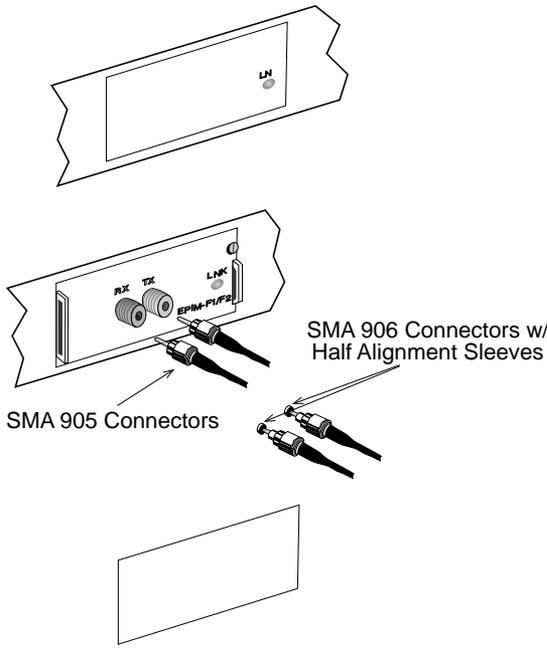

Figure 4-3. The EPIM-F1, EPIM-F2 and EPIM-F3
2. Attach the fiber labeled 1 to the applicable receive port, labeled **RX**, on the module. See Figure 4-3.